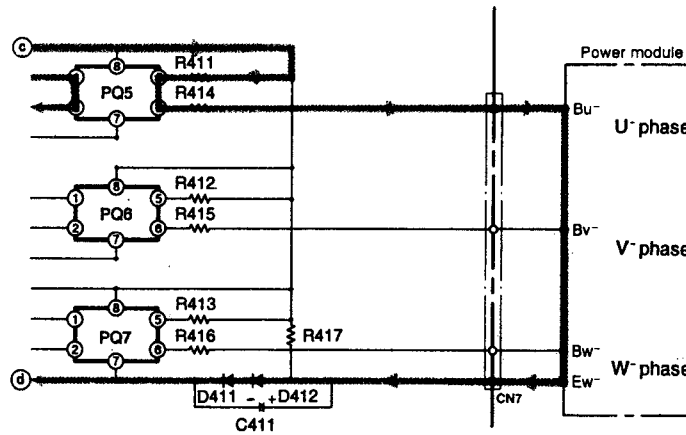

Fig. 7-4
Fig. 7-4 shows the lower arm drive circuit.
- When pin ②⑥ of the micro computer goes "HI" → "LO", a photocoupler between PQ5 pins ① and ② turns on and current flows to terminal ③ → R411 → PQ5 → R414 → power module's BU⁻ terminals → Ew⁻ terminals → D412 → D411 → terminal ④ and drives the lower arm transistors. (Fig. 7-4)
- The signals which turn on or off according to the position detection signals are output from pins ②⑥ ②⑦ ②⑧ of the micro computer in the same way as in the upper arm drive circuit and are input to pins ② of photocouplers PQ5-PQ7.